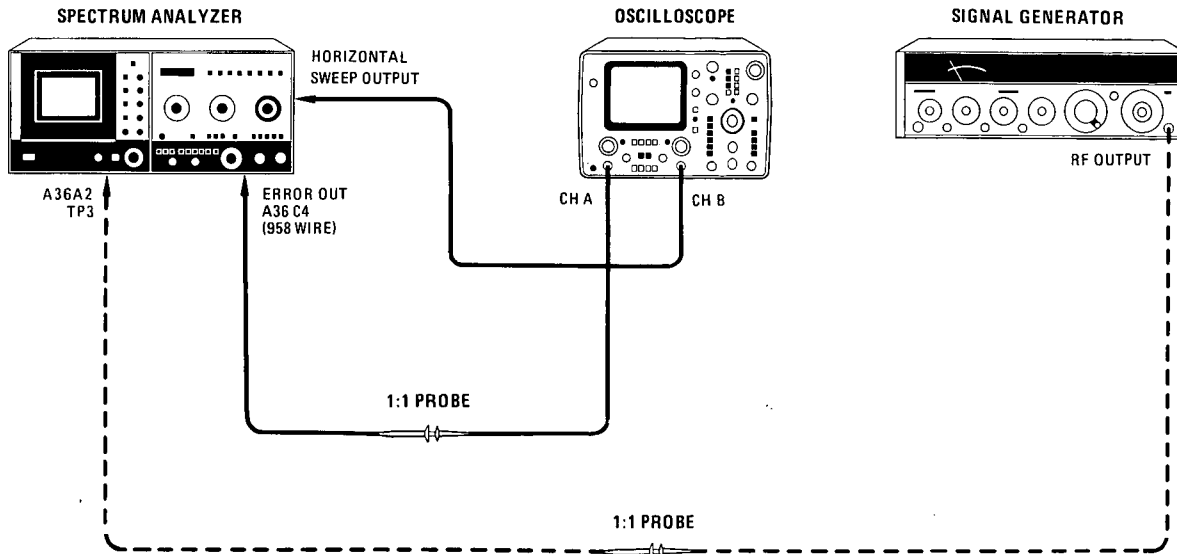

Figure 5-45. Tuning Stabilizer VCXO Check and Adjustment Test Setup
- n. Connect equipment as shown in Figure 5-45 and set oscilloscope for an externally swept (\uparrow \rightarrow) dc coupled display. *down connect sig gen. yet.* Set CHAN A to 10 mV/DIV and CHAN B to 1V/DIV. Set 8565A controls as follows: